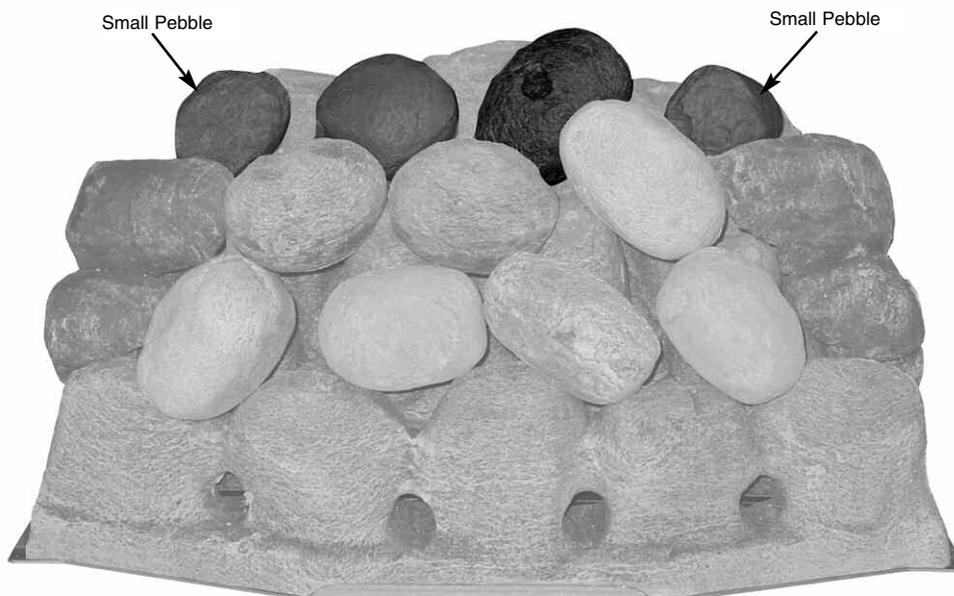

Fig. 28
6. Place the next two pebbles in the middle, on the back edge of the pebbles previously laid ensuring even gaps all round. Finally place the two small pebbles, one in each top corner. Make any adjustments necessary to achieve even gaps as this will help in giving a well balanced flame picture and an even glow (Fig. 28).